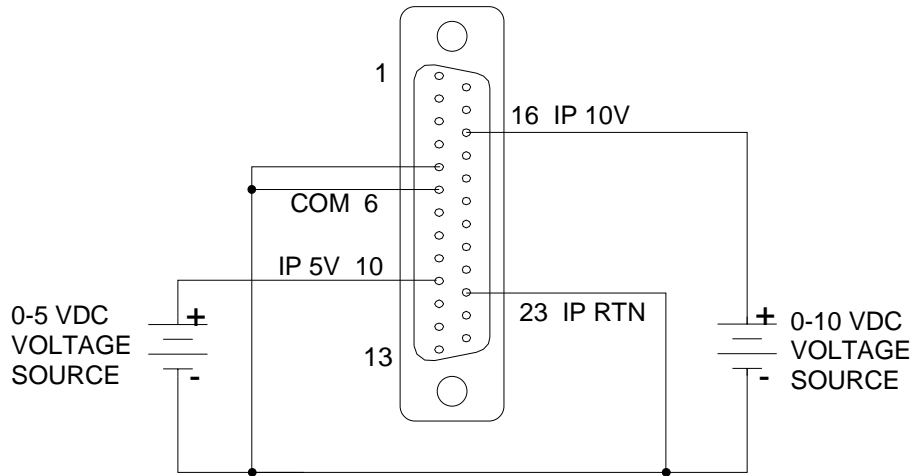

Figure 3-8. Remote Current Programming Using 0-5 VDC or 0-10 VDC Voltage Source
A DC voltage source for remote current programming is connected between J1-10 (IP 5V) or J1-16 (IP 10V) and the return terminal J1-23 (IP RTN). Note that the return terminal J1-23 (IP RTN) must be referenced directly to or within $\pm 3V$ (see note) of the power supply common, J1-24. The voltage coefficient for 5V remote current programming is 50 millivolts = 1% of rated output, i.e., for a 300 amp model, each 50 millivolts of programming voltage equals 3 amps of output current. The voltage coefficient for 10V remote current programming is 100 millivolts = 1% of rated output, i.e., for a 300 amp model, each 100 millivolts of programming voltage equals 3 amps of output current. See Figure 3-8 for connection requirements.
1. Set the SGI Series unit to operate in remote current programming mode using an external 0-5 Vdc voltage source as shown in Figure 3-8 in Section 3.3 Remote Current Programming.